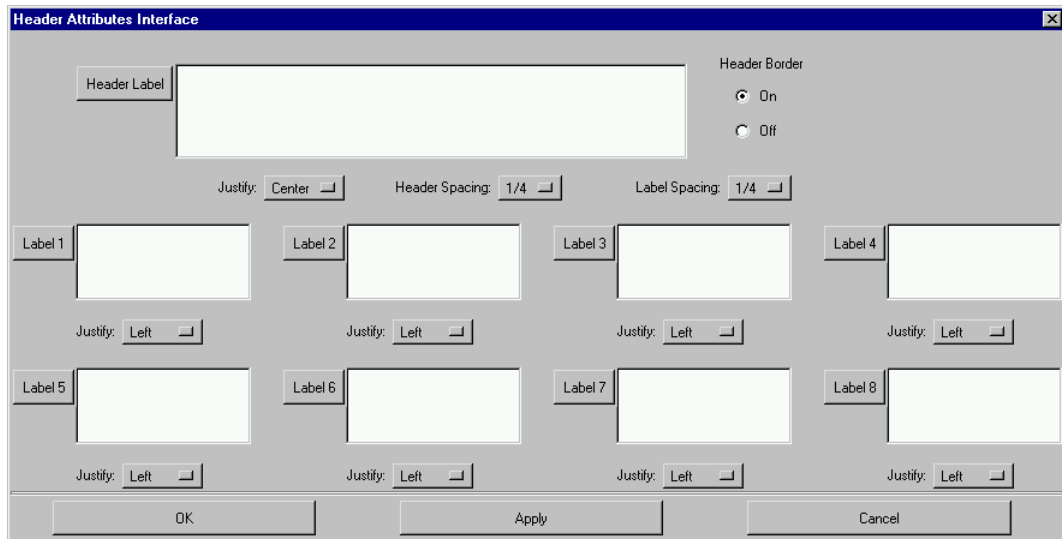

Figure 1-6 The Header Attributes Interface dialog box.
Step 4 Double **click** anywhere inside the header box to bring up the Header Attributes Interface dialog box, shown in Figure 1-6. This dialog is used to specify the contents of the header and to modify the appearance of the text (font, size, color, and so on).